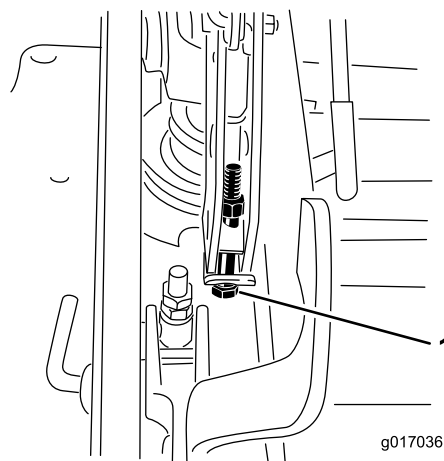

Figure 88
13. If the deck is too low, tighten the single-point adjustment bolt by rotating it clockwise. If the deck is too high, loosen the single-point adjustment bolt by rotating it counterclockwise (Figure 88).